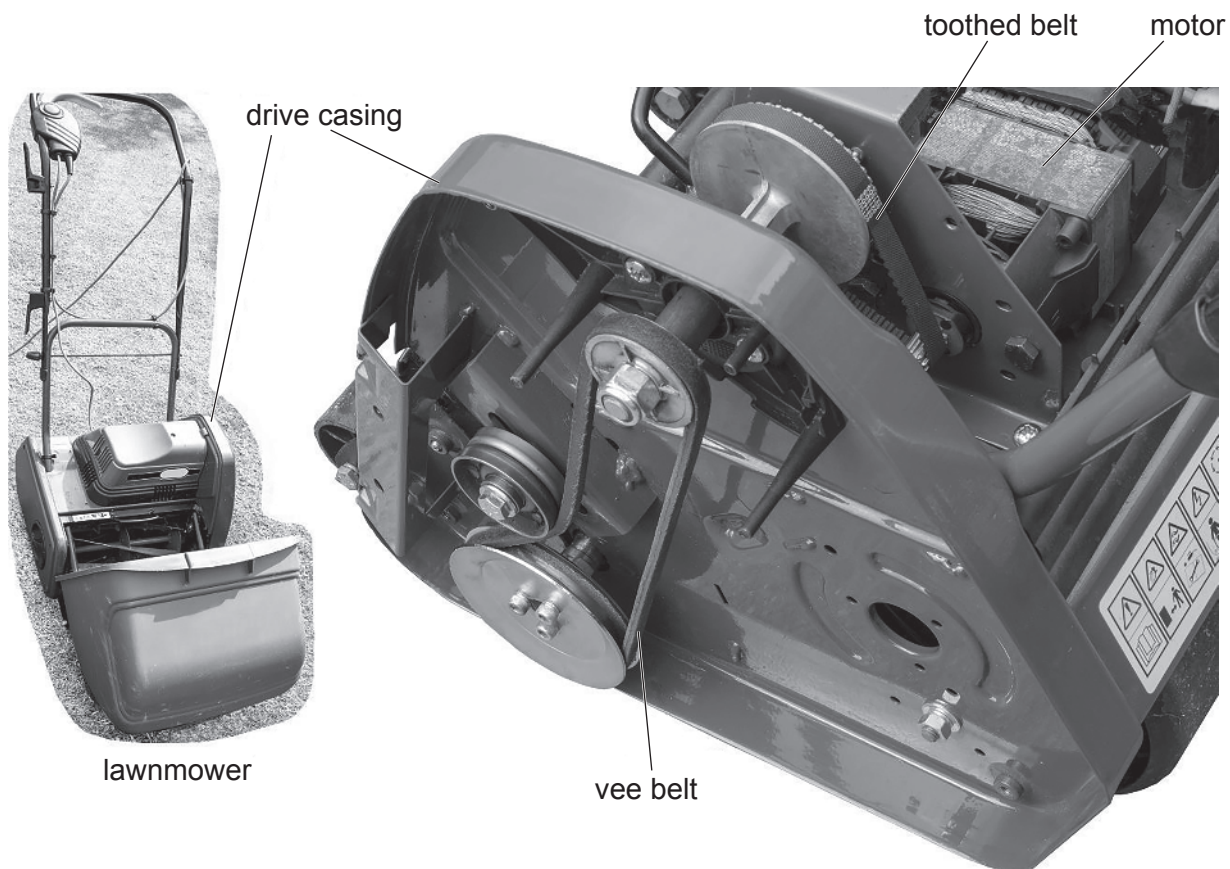

Fig. 11.2
- (c) Fig. 11.2 shows the drive system on a lawnmower. The drive uses toothed and vee belt pulley systems to reduce the speed of rotation provided by the electric motor.